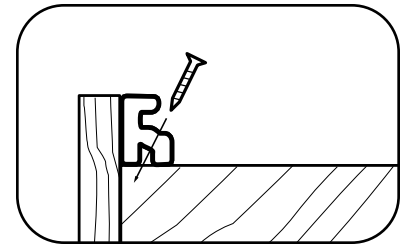

Fig. 18
- Place a TimberTech Starter Strip against the riser board (Fig. 18) and fasten into place, using one 2-1/2" stainless steel or galvanized deck screw per joist.